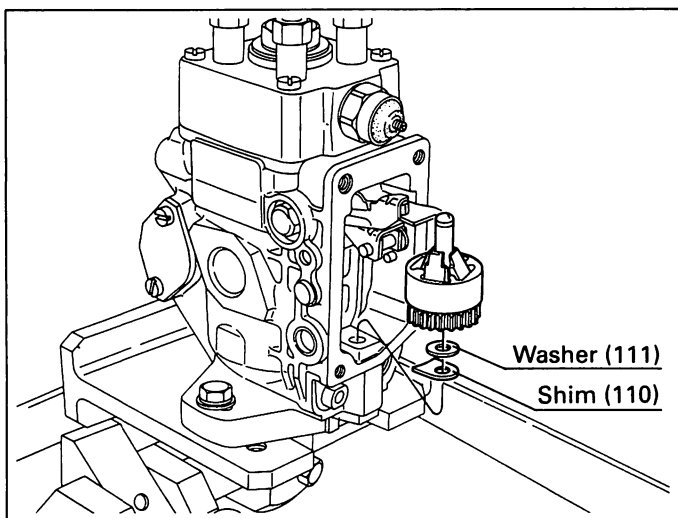

Fig. 80 Installing the flyweight assembly
3. Install the flyweight assembly, shim (110) and washer (111) in the housing. (Fig. 80)